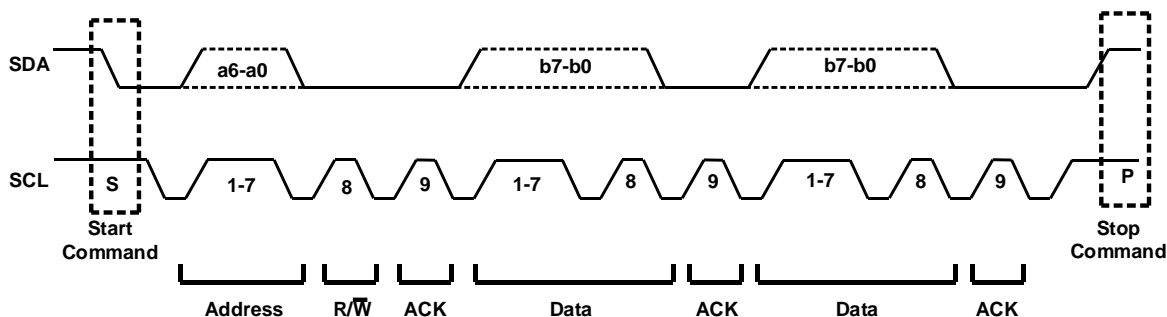

Figure 8: Data Transfer over the PMBus
The start and stop commands are signaled by the master device, which signifies the beginning and end of the PMBus transfer. A start (S) command is defined as the SDA signal transitioning from high to low while SCL is high. A stop (P) command is defined as the SDA signal transitioning from low to high while SCL is high (see Figure 8).